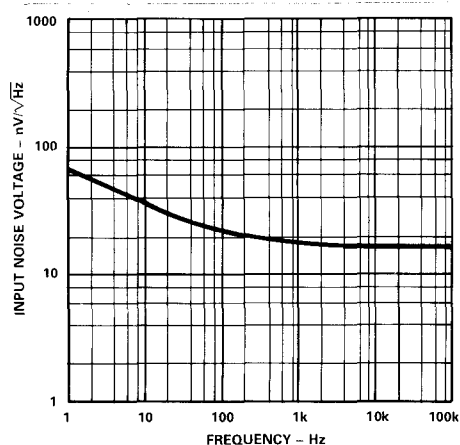

Figure 4. Input Noise ( $nV/\sqrt{Hz}$ ) vs. Frequency (Hz)
**Input Noise.** Figure 4 presents the typical input noise characteristics, in  $nV/\sqrt{Hz}$ , of the AD203SN for a frequency range from 1 Hz to 100 kHz.